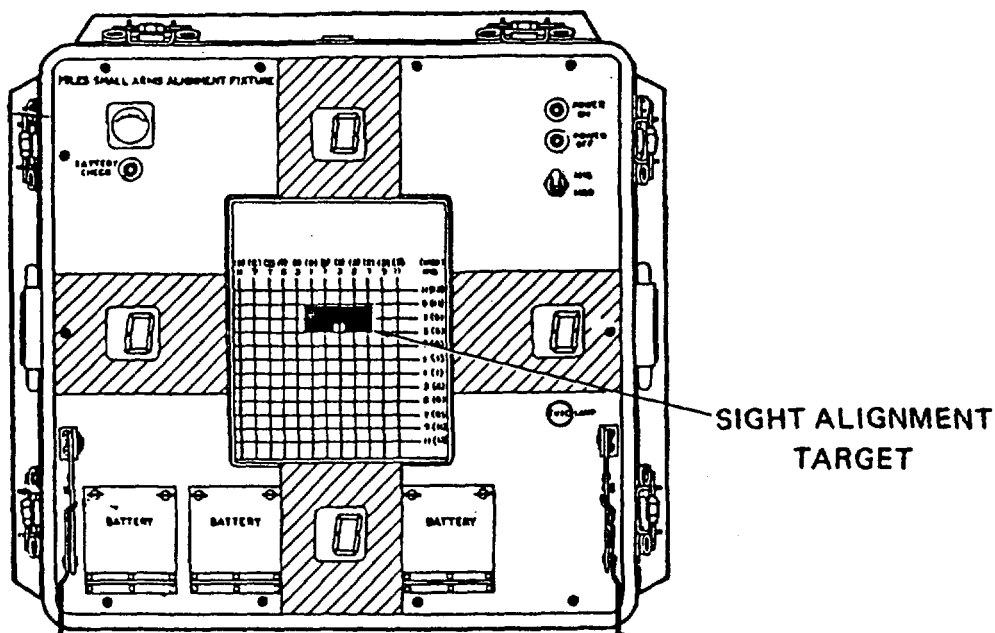

FIGURE 4-3. SAAF
2. Using a functional SAT, fire a laser beam at the SAAF sight alignment target (refer to Figure 4-3).